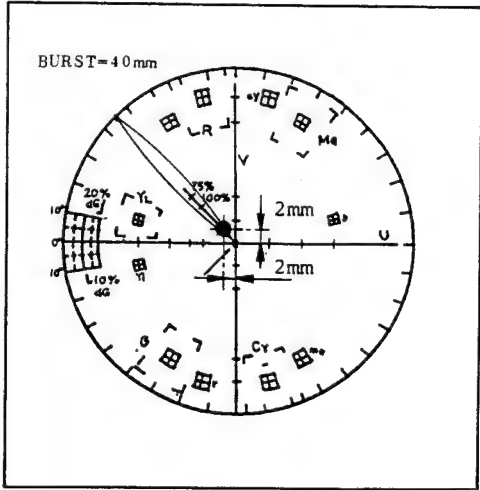

Fig. II-51
| SPEC. | Set bright dot to position in Fig. II-51 ①. |
| SPEC. | Set bright dot to position in Fig. II-51 ②. |
- 2) Set each bright dots as in Fig. II-51, respectively.